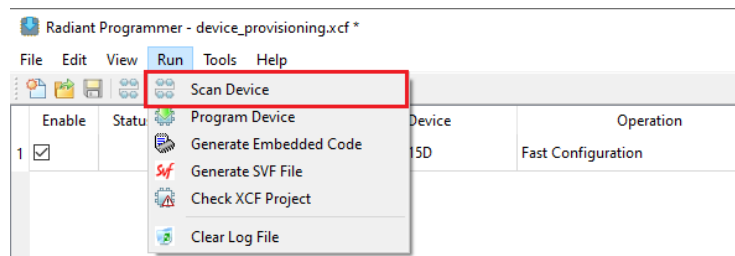

Figure 6.15. Scan Device
- From the Run menu, select **Scan Device**. See Figure 6.15.